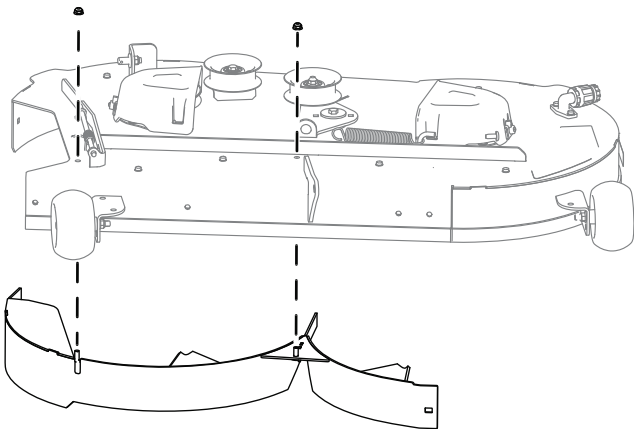

Figure 1
1. Install the baffle assembly to the right-hand side of the mower deck with 2 flange nuts (5/16 inch) as shown in Figure 1. Tighten the fasteners by hand.